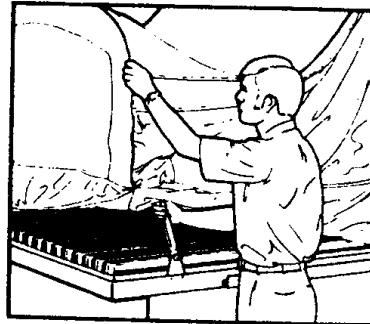

FIG. 8
22. Grasping the bed bow from the left side of the trailer pull it up into position so that it supports the canvas over the bed. Do not force the bed bow, free the canvas so as not to damage or bend bow. Pull the canvas with one hand and the bed bow with the other. Do not use bed bow to carry or position the complete weight of the canvas. (See Figure 8.)
29. Grasping the bed bow from the left side of the trailer pull it up into position so that it supports the canvas over the bed. Do not force the bed bow. Free the canvas so as not to damage or bend bed bow. (Refer to Figure 8.)